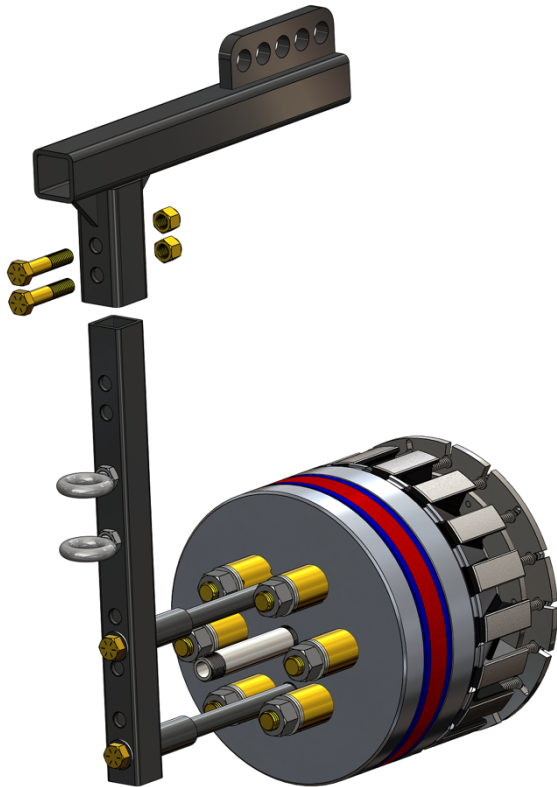

Figure 13: Aligning and Fastening Telescoping Lifting Attachment onto Universal Lifting Bar
- 9.3 After fastening the **Telescoping Lifting Attachment(25)** to the **Lifting Standoffs(26)**, slide it in to the **Universal Lifting Bar(24)** shorter square tubing. Upon insertion, align the two holes on both the **Telescoping Lifting Attachment(25)** and **Universal Lifting Bar(24)**. See *Figure 13*.
- 9.4 Fasten the **Telescoping Lifting Attachment(25)** with the provided **Lifting Device Bolts(27)** and **Nuts(29)**. See *Figure 13*.